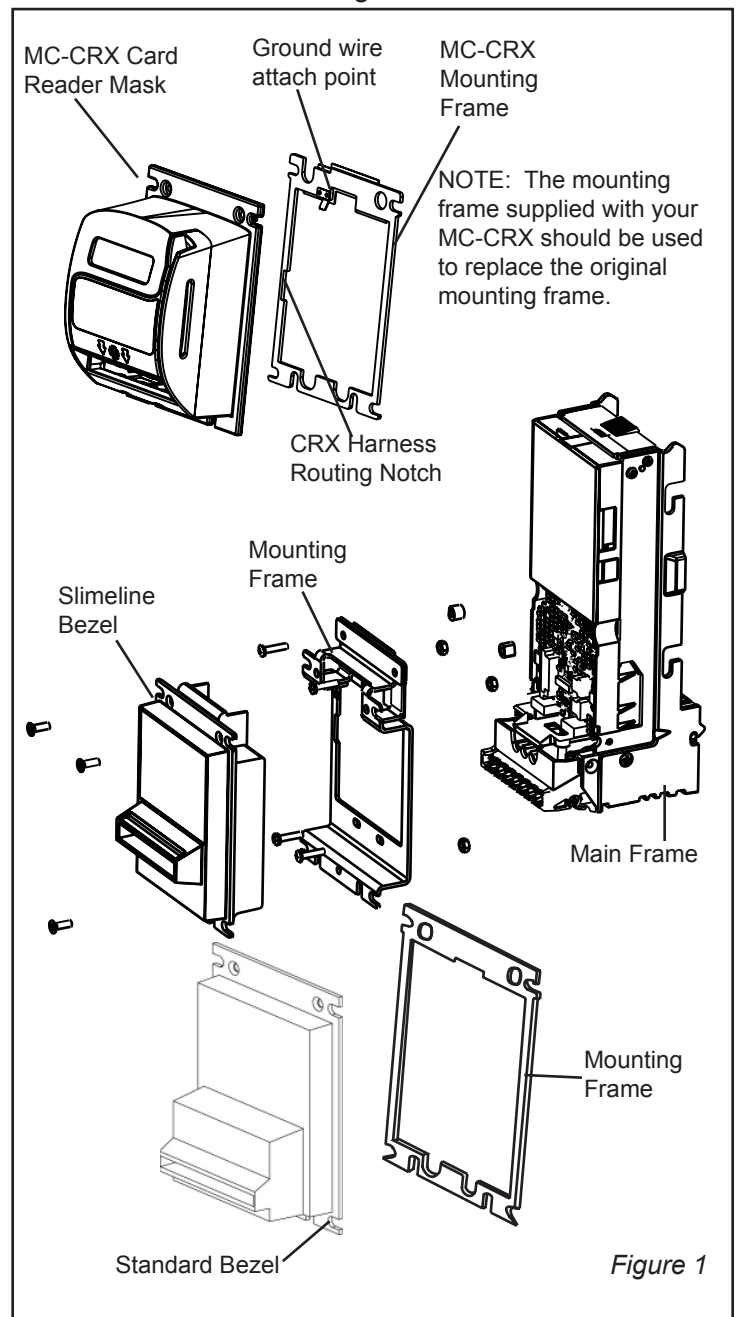

Figure 1
- Using a Phillips screwdriver, remove the 4 screws that secure the MC Series bezel to the mounting frame and mainframe (See Figure 1).
- Using a Phillips screwdriver, remove the 3 screws that secure the MC Series bezel to the mounting frame (See Figure 1).